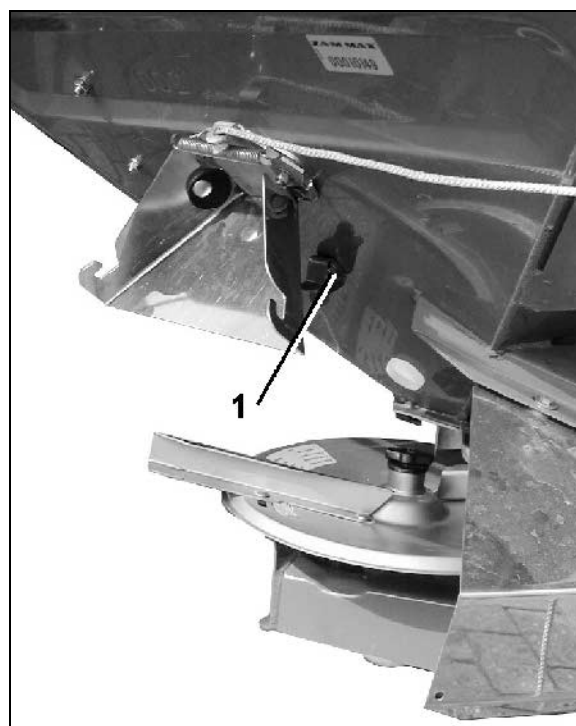
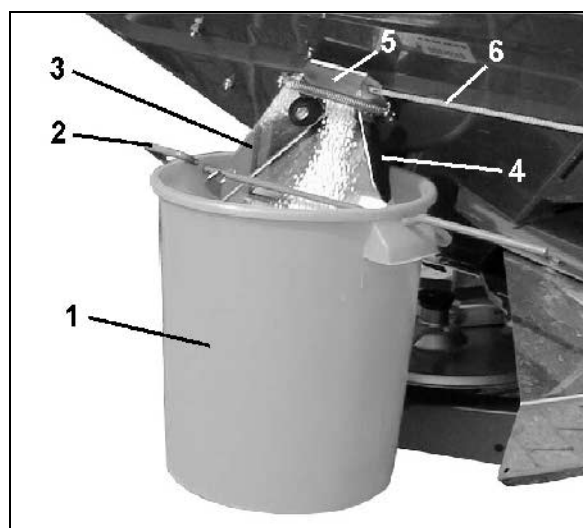

Fig. 50
Fig. 51
1. By using the handle (Fig. 51/1) hook the collecting bucket (Fig. 51/2) on to the outlet chute (Fig. 51/3). Let the collecting bucket catch into the clamping device (Fig. 51/4 u. Fig. 50/1).
2. Entirely open the side shutters (Fig. 51/5) of the outlet chute for approx. 5 sec. by using the rope (Fig. 51/6) (to ensure an even fertilizer flow). Then pour the collected fertilizer back into the spreader.